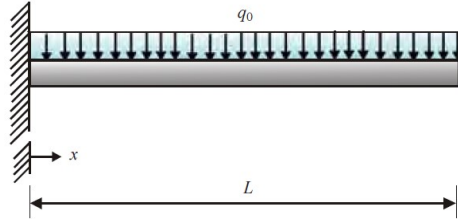

Figure 1
3. Using Rayleigh- Ritz method derive the expression for vertical displacement 'v' of a cantilever beam subjected to uniformly distributed load q_0 as shown in Figure 1 below as a function of domain variable 'x'. Consider as approximate solution consisting of two terms.